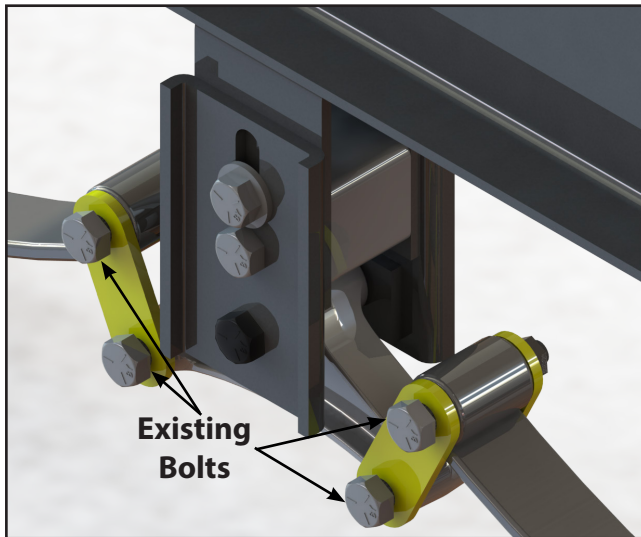
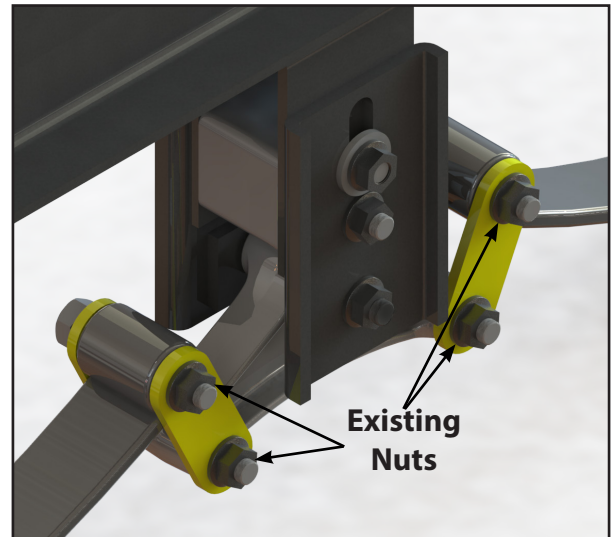

Fig.8
Fig.9
7. Bolt the leaf spring to the shackle, using existing bolts. Torque to manufacturer's recommendation (Fig. 8).
**Note:** If the shackles were removed from the equalizer, use existing bolts or replace as needed (Fig. 8 and Fig. 9). Verify that all equalizer and shackle hardware is tightened.